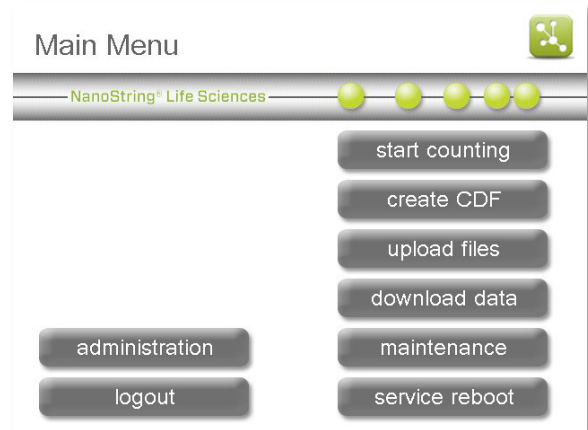

Figure 50: The Main Menu.
2. From the Main Menu, press **upload files** (Figure 50).